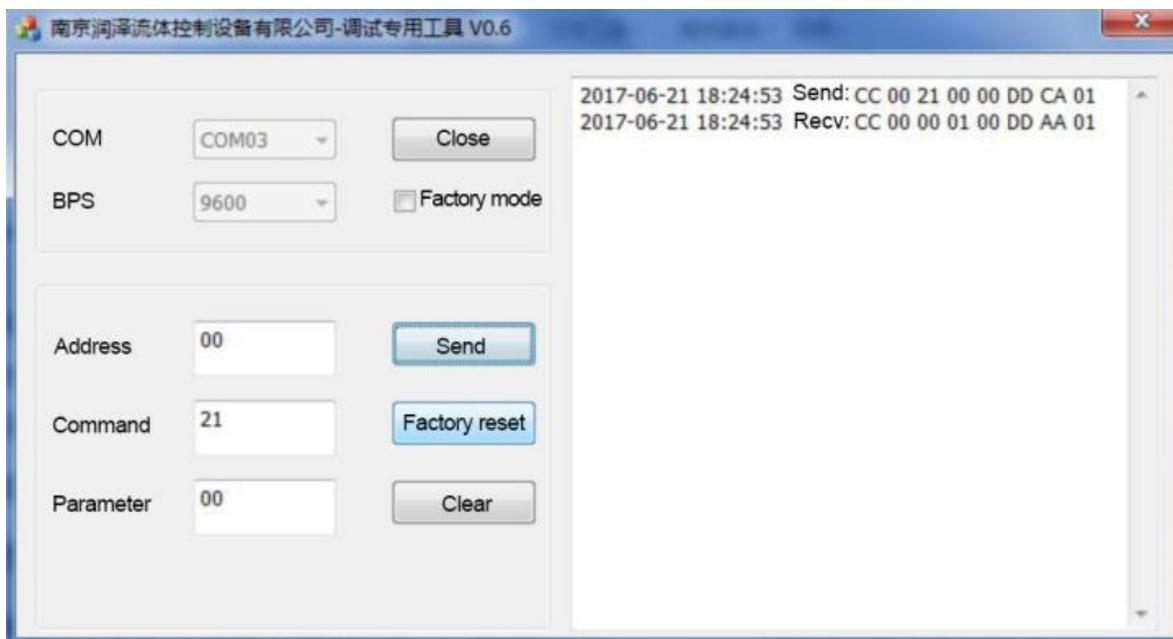

Figure 4
3. Cancel the chosen “Factory command” (as Figure 4)
4. Inquiry set speed, input speed setting code “21” into “Command” and input “00” into “Parameter”, click “send”, if received commands as Figure 4, settings are correct.